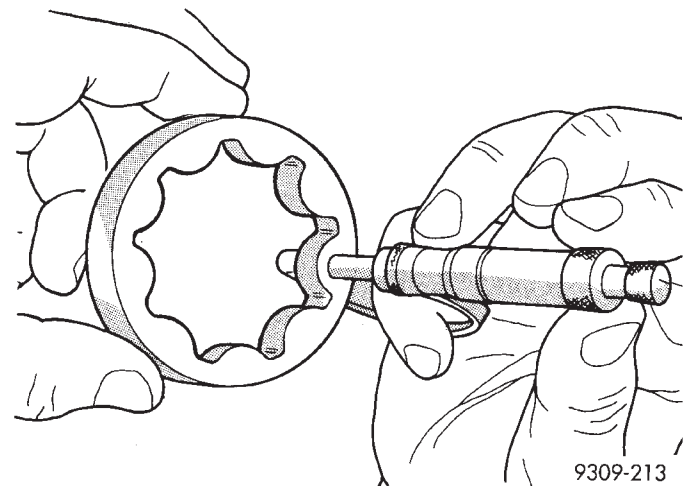

Fig. 101 Measuring Outer Rotor Thickness
(3) Measure thickness and diameter of outer rotor. If outer rotor thickness measures 9.40 mm (0.370 in.) or less (Fig. 101), or if the diameter is 79.95 mm (3.148 in.) or less, replace outer rotor.